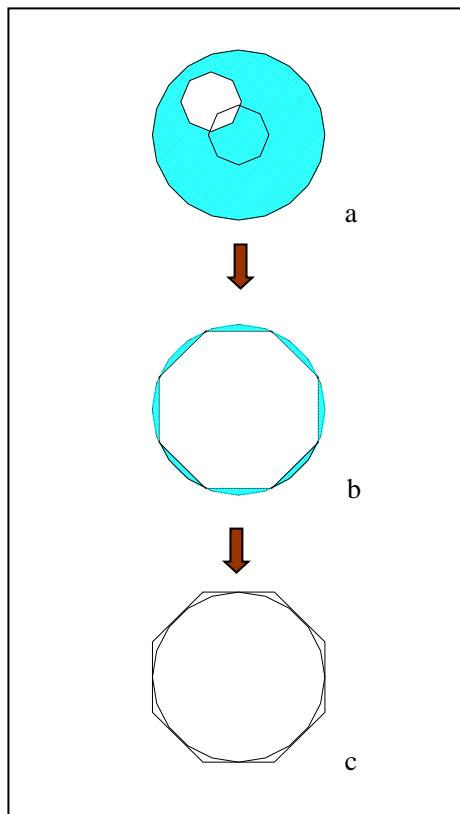

Fig 2
1. Switch the light shutter ① to “●” position.
3. Switch the light shutter ① to “O” position.
5. Pull the field iris diaphragm lever ② out until the diaphragm comes into the smallest state.
6. Use the hexangular wrench to adjust the two field iris diaphragm centering screws alternately to move the image of the diaphragm to the center. (Fig.2 show the adjustment of diaphragm)
Adjusting the field iris diaphragm (fig.2)